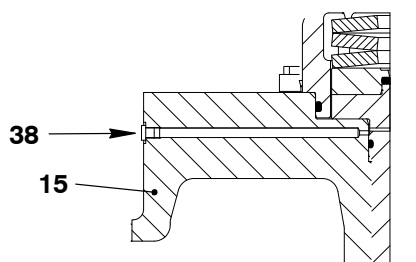

Fig. 10
- 1) Make sure that the oil bore to the valve guide (38, Fig. 10) is clear.